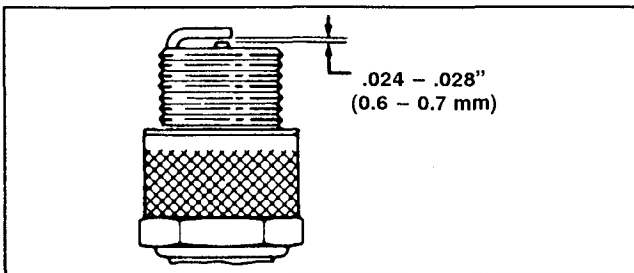

Figure 16
REPLACING SPARK PLUG (Fig. 16)
3. Set air gap at .024 – .028" (0.6 – 0.7 mm) as shown in Figure 16. Install correctly gapped spark plug and gasket seal. Tighten plug firmly to 9 ft–lb (1.2 Kg–m).